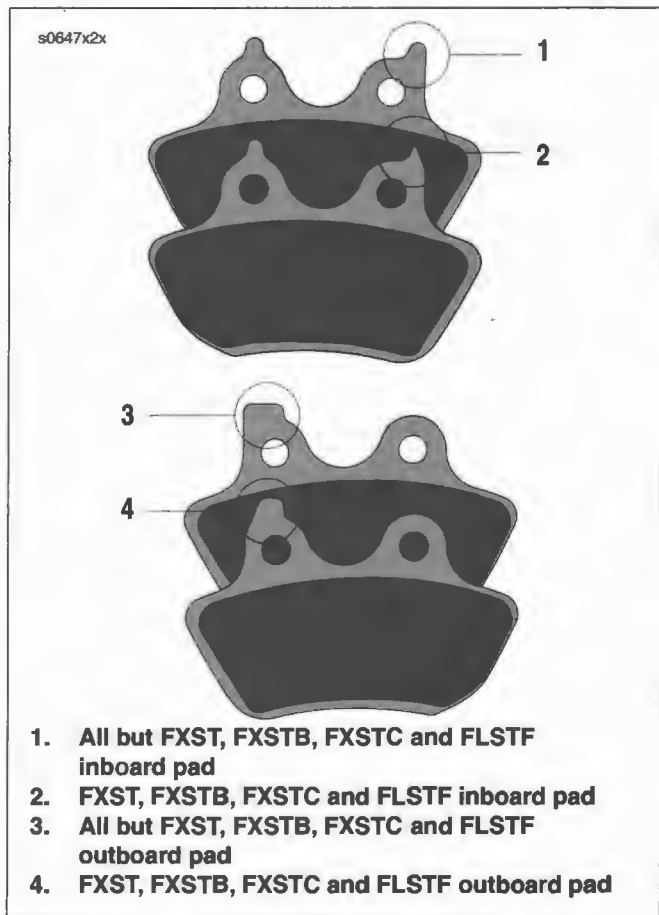

Figure 1-18. FXST and FXSTB Brake Pads
- See Figure 1-18. The rear brake pads on FXST, FXSTB, FXSTC and FLSTF models are different than the pads on other models.